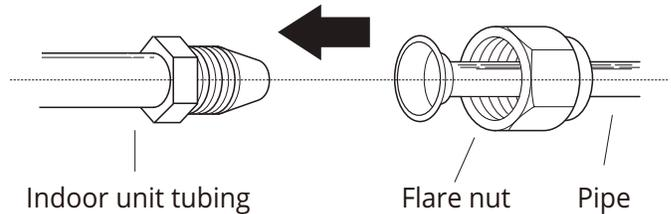

Fig 6.7
1. Align the center of the two pipes that you will connect. See Fig. 6.7.